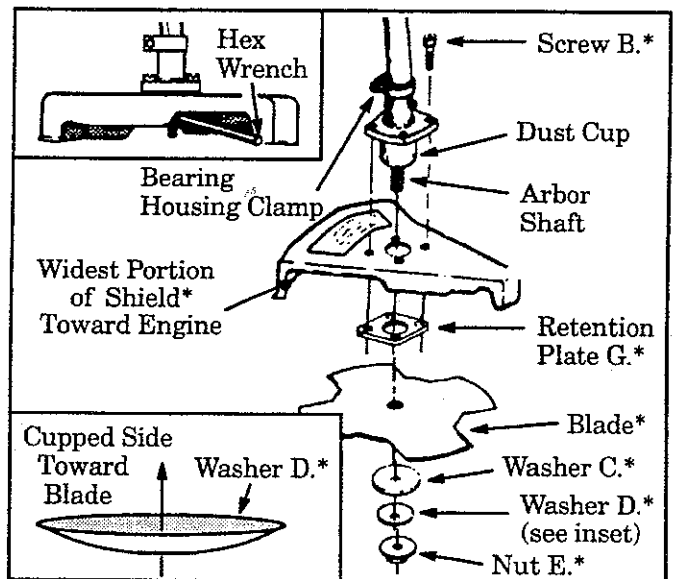

Figure 4
Failure to install the shield in the position shown in Figures 4 and 5 can result in serious injury to the operator. The length of the shield must be aligned with the length of the drive shaft housing. Direct widest part of shield toward the engine.
2. Hold retention plate "G." in position and place the metal shield under the bearing housing. Align screw holes. Figure 4 .
3. Insert screws "B." (one at a time) through bearing housing, shield, and retention plate "G." Figure 4 .
6. Install the blade over arbor shaft, making sure the hole in the center of the blade is fitted around the raised center step on the dust cup. Figure 4 .
7. Install washer "C.", cupped washer "D.", and nut "E." Figure 4 . Be sure cupped washer "D." is installed as shown in the lower inset in Figure 4 .
8. Align the hole in the dust cup with the hole in the side of the bearing housing by turning the dust cup. Figure 4 (upper inset).
9. Insert large hex wrench (provided) into the aligned holes to keep arbor shaft from turning. Figure 4 .